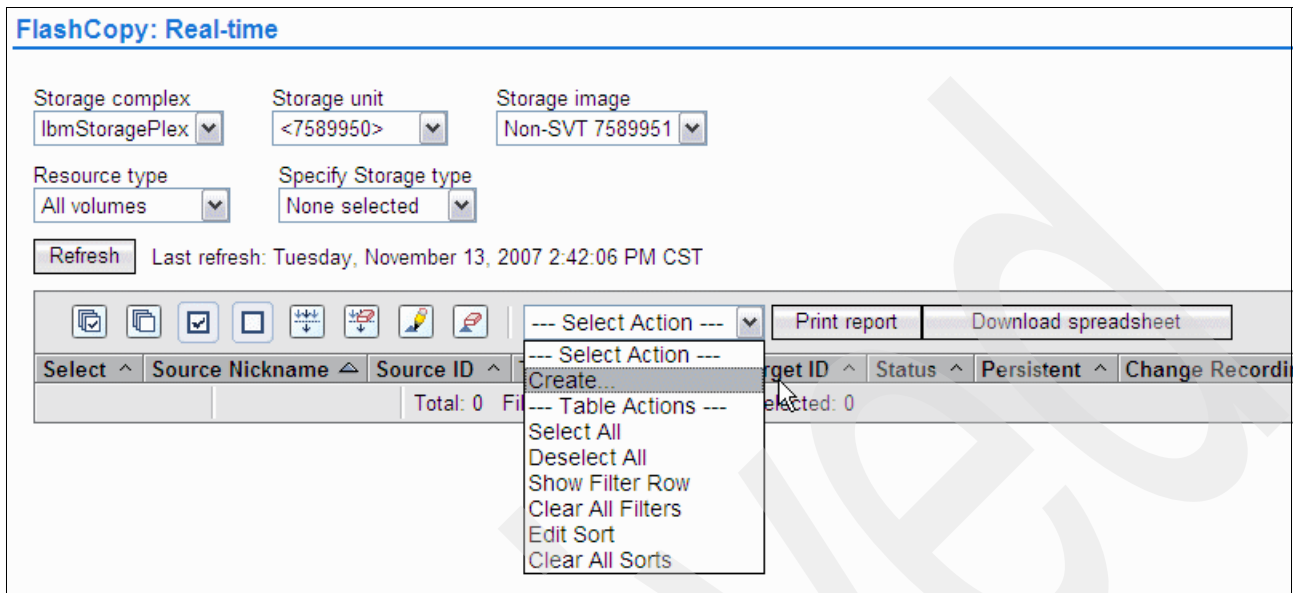

Figure 11-4 DS8000 Storage Manager FlashCopy window
2. Create the new FlashCopy implementation by selecting **Real-time manager** → **Copy services** → **FlashCopy**. Choose **Create** from the **Select action** drop-down box (see Figure 11-4).